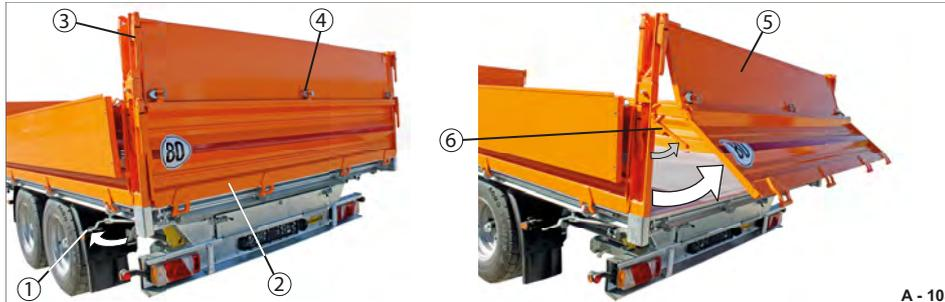

Fig. 111 Rear platform gates swinging combined with platform gate attachment
The locks of the platform gate attachment (Fig. 111/3) must stay closed.
The hinges (Fig. 111/4) must be secured!
- ▶ Unfasten the locks of the rear platform gate (Fig. 111/6).
- ▶ Unlock the central locking system (Fig. 111/1).
- ▶ Close the central locking system (Fig. 111/1).
- ▶ Fasten the locks of the base platform gate (Fig. 111/6).